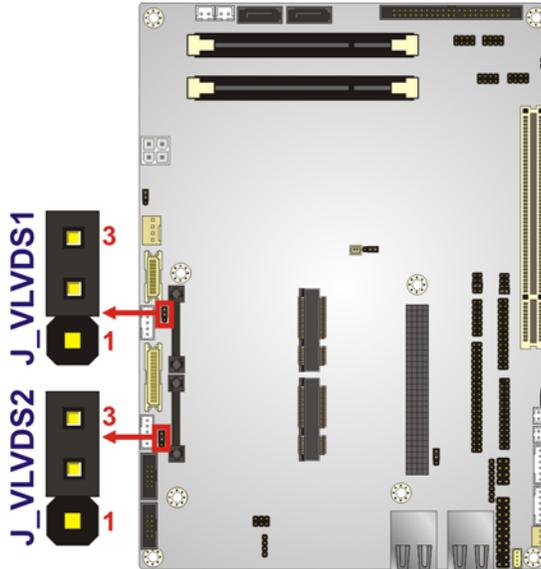

Figure 4-9: LVDS Voltage Selection Jumper Locations
- Jumper Location:** See **Figure 4-9**